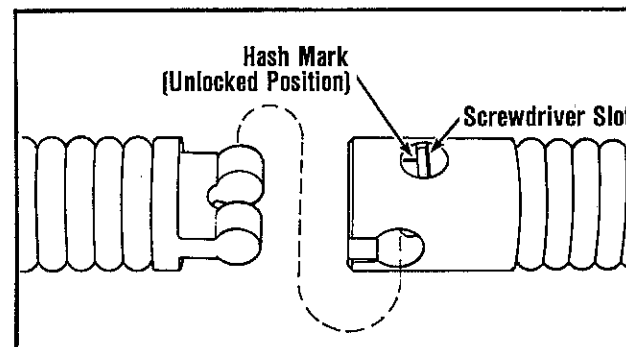

Figure 9. Disconnecting/Connecting Cable or Tool.
**Disconnecting/Connecting Cable or Tool (Figure 9)**